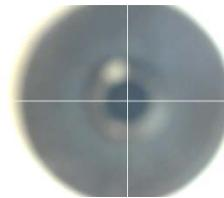

Figure 5-2: Go To Prime Cup Image
- Click **Go To**. The Camera Window crosshairs should be centered on the center of the Prime Cup, although the cup will not be in focus, as shown in Figure 5-2.